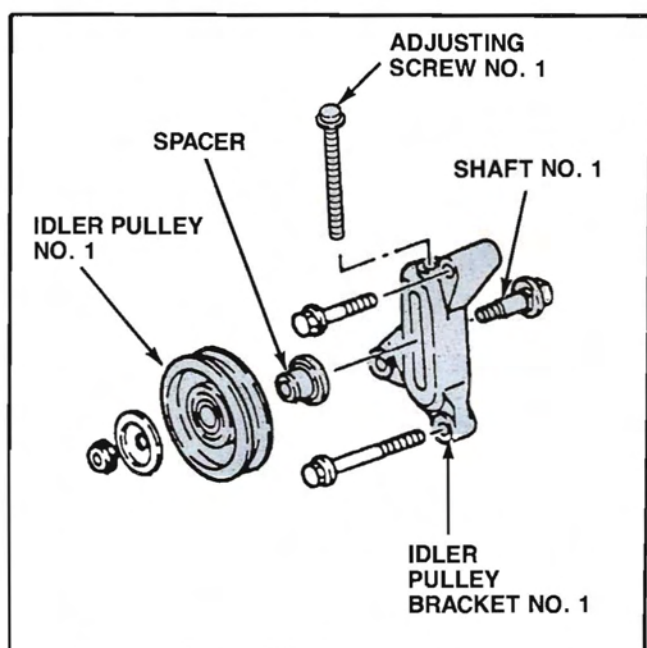

Figure 154. Idler Pulley Subassembly 1 Installation
1. Install idler pulley shaft 1 to the idler pulley bracket 1 and screw belt adjusting screw 1 into the pulley shaft (Fig. 154).